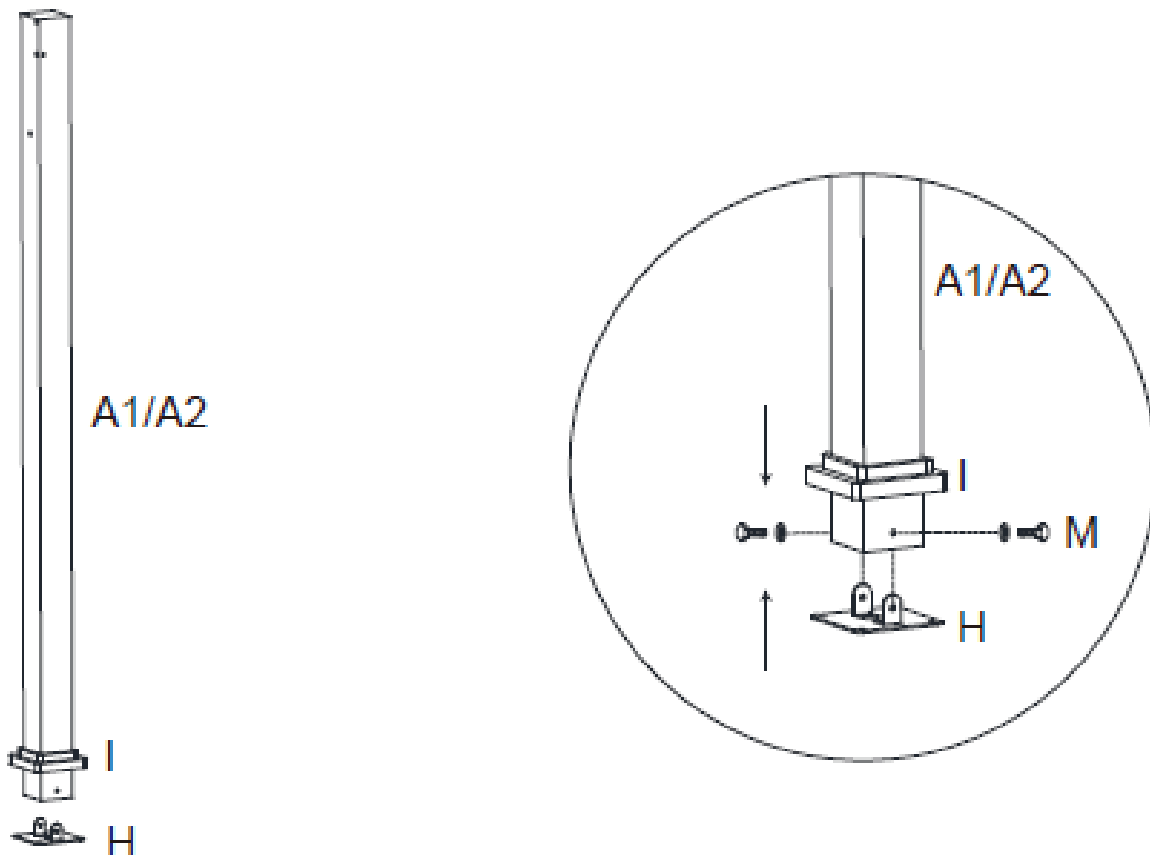

Figure 1
Step 1: Insert Corner Posts (A1 & A2) into Base Cover (I). Attach Base Plate (H) to Corner Posts (A1 & A2) using Bolt (M). See Figure 1.